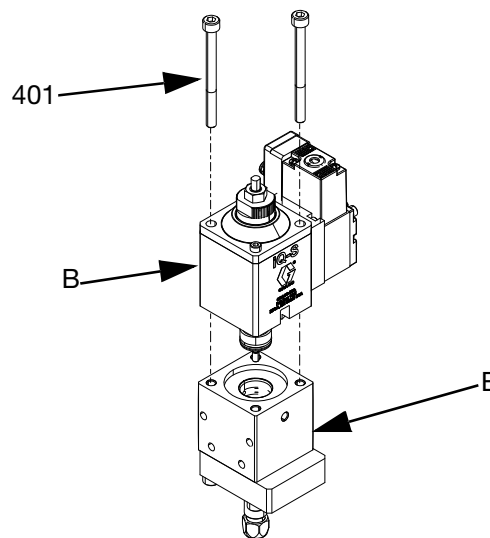

FIG. 11
4. Remove the Snuff-Back adapter (308) and spacer (315).
5. Place an Allen key through the piston rod (410) hole located in the Weep Hole (K). Unthread the nut (310) using a 5.5 mm socket or nut driver and remove the tip (309).
6. If the Fluid Section (E) is not mounted, place the Fluid Section in a vise.
7. Remove the M5 screws (401) using a 4mm allen wrench from the top of the air cylinder. Gently pull the Air Section (B) until the piston rod (410) is removed from the Fluid Section (E). See FIG. 11.